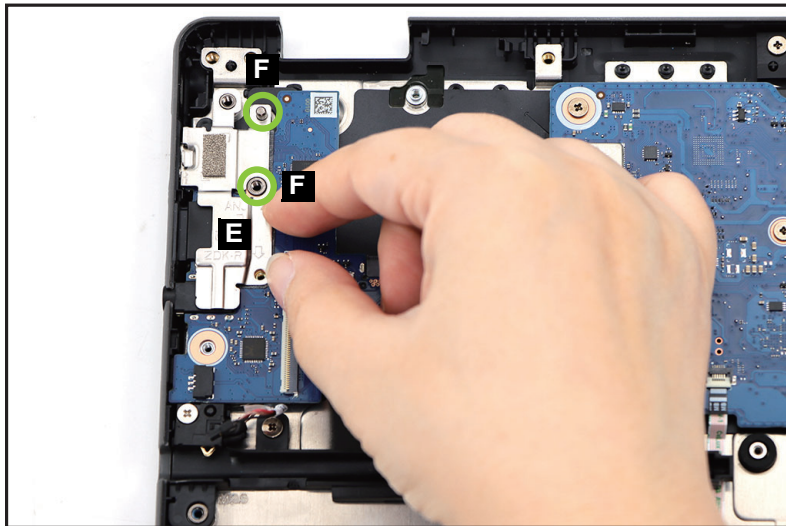

Figure 1-33. LTE Board Removal
6. Release the I/O bracket (E) from the guide pins (F) on the top assembly (Figure 1-33). Then remove the I/O bracket.